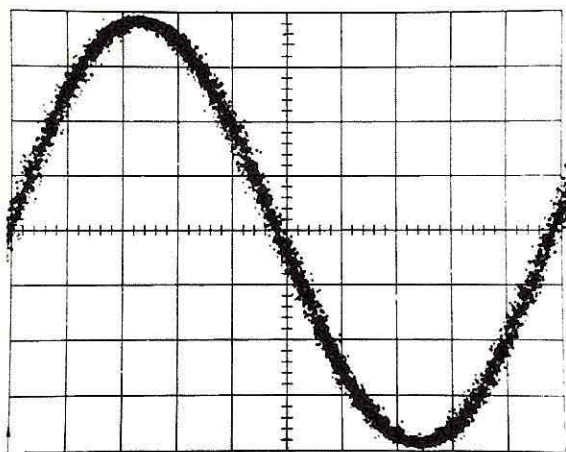

Fig. 7-7. 1 GHz Sinewave at .1 ns/DIV.
d. Change the DELAYED SWEEP to .1 ns and check for one cycle in ten divisions ± 0.3 division (see Fig. 7-7).